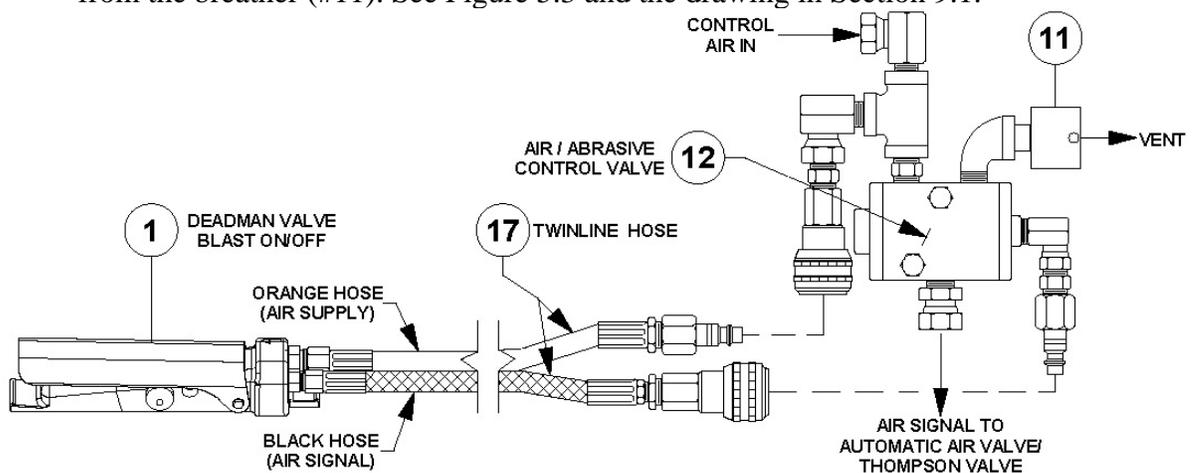

Figure 5.3 – Pneumatic Blast Control System
5.10.1. Pneumatic Deadman System: When the pneumatic deadman lever is pressed down air supply from the orange hose of the twinline hose (#17) flows into the black hose. Air flows through the black hose to the signal port of the control valve (#12) causing it to open and send air signals to the auto air valve (#10) and the Thompson® Valve (#13). When the deadman lever is released the air signal is cut off and the remaining air vents from the breather (#11). See Figure 5.3 and the drawing in Section 9.1.